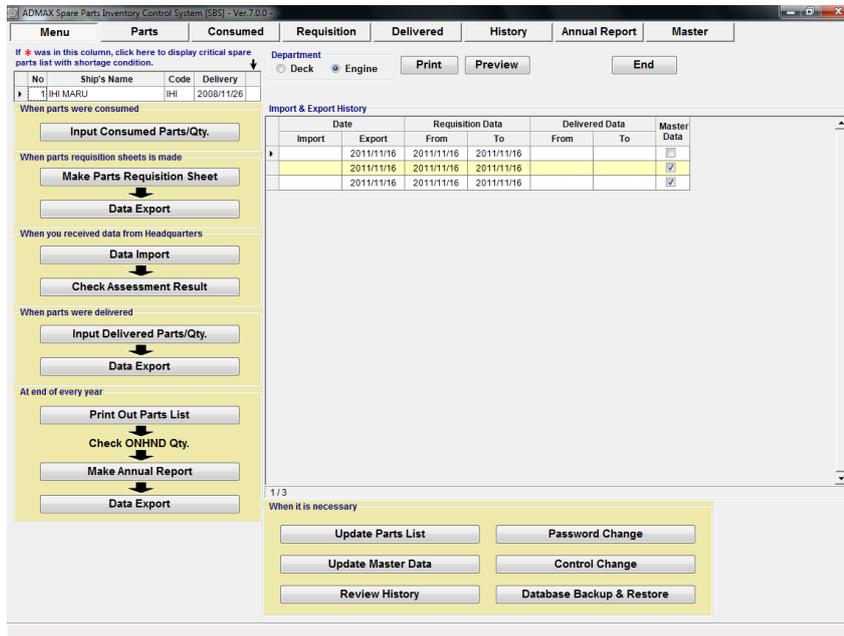

Fig 13.1 Menu
1. On the “Menu Screen”(Fig.13-1), select [Update Master Data].